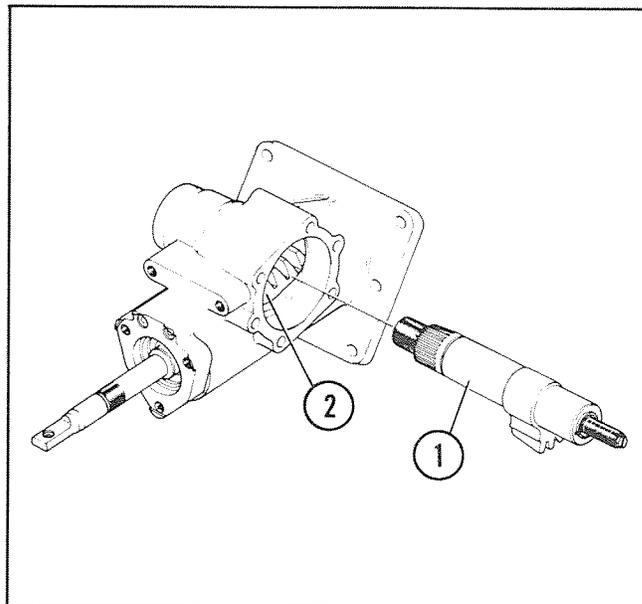

Figure 35
10. Align the sector shaft (1) with the ball nut teeth (2), Figure 35.